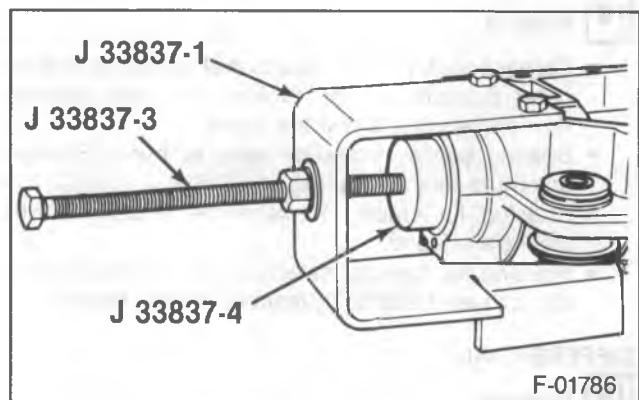

Figure 17—Installing the Outer Pinion Bearing Cup
- Bearing cup (41) into the case using J 33837-1, J 33837-3, and J 33837-4 (figure 17).